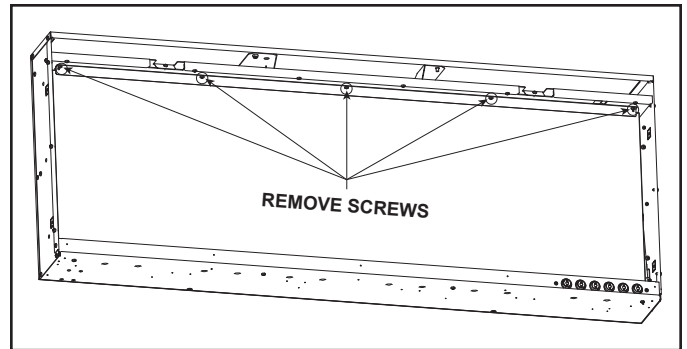

Figure 11 Remove Glass Holding Bracket Screws
2. Remove the screws attaching the glass holding bracket to the appliance, and set the bracket and screws aside. See Figure 11.